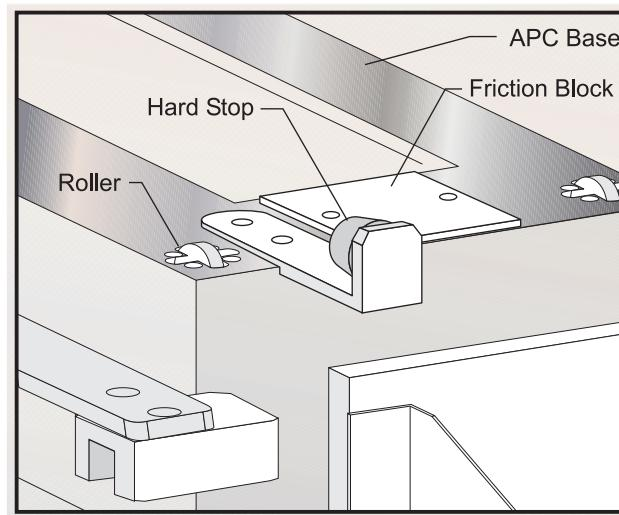

Figure 2.13 View of APC base showing friction block and hard stop.
- 19.** Pull the pallets onto the friction blocks and against the hard stop (see Figure 2.13). Rotate the chain slightly, using the chain position adjustment tool, to allow each drive leg pawl to clear the chain drive roller.